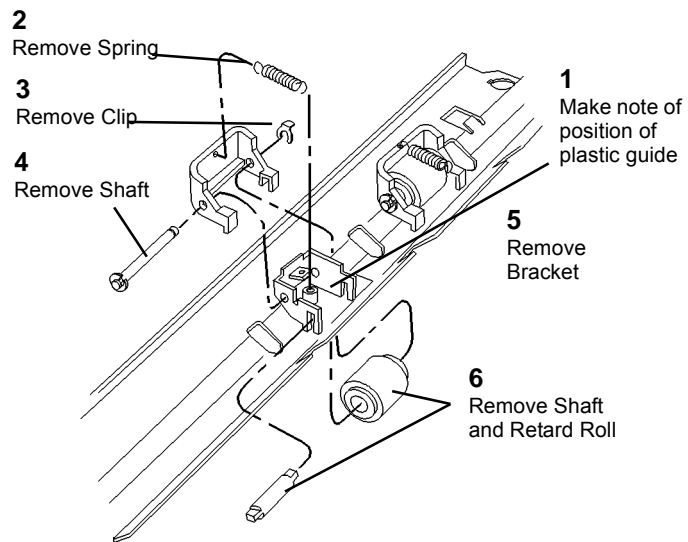

Figure 1 Removing Retard Roll
4. Remove Retard Roll (Figure 1).